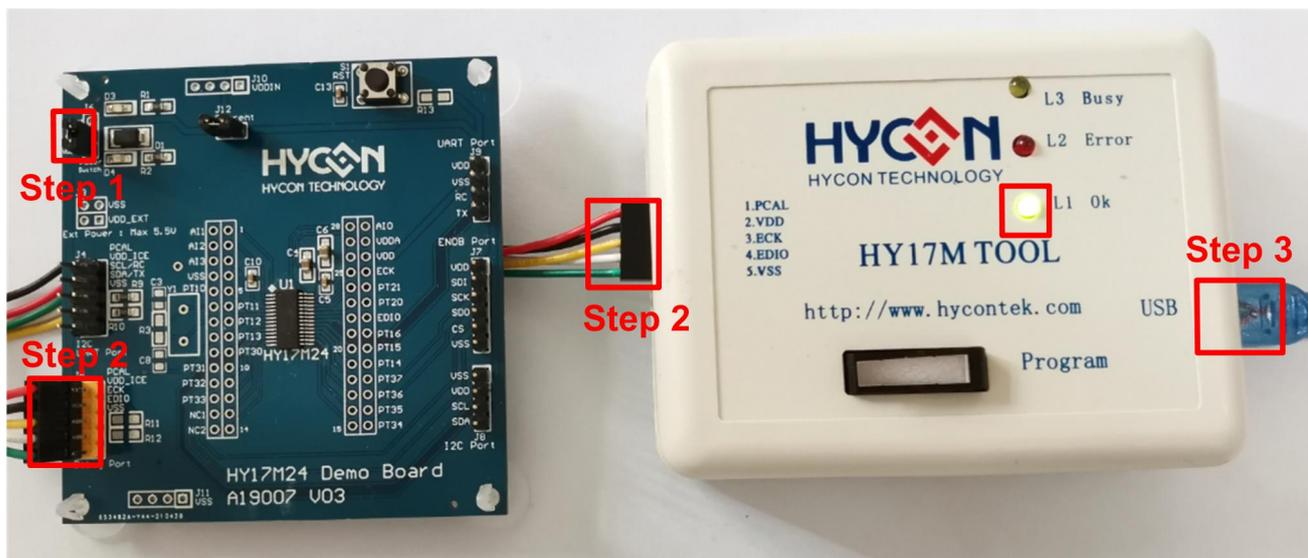

Figure 4-5
Step4: After Step 1~3 (as shown in Figure 4-5), the hardware connection is completed.